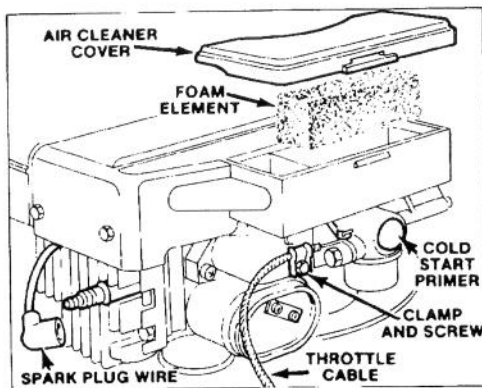

Figure 14
Before starting engine when temperature is below 50°F (10°C), push cold start primer 5 times (Fig. 14), pausing 2 seconds between each push.
2. Lift off air cleaner cover and clean thoroughly (Fig. 14).
3. If top of foam element is dirty, remove it from air cleaner body (Fig. 14). Clean thoroughly.
1. Stop engine and pull wire off spark plug (Fig. 14).
2. Clean around spark plug and remove plug from cylinder head (Fig. 14).
4. Loosen cable clamp screw until throttle cable slides (Fig. 14). Move carburetor control arm as far to the left as possible. Pull throttle cable slightly to remove any slack and tighten cable clamp screw to lock adjustment in place.